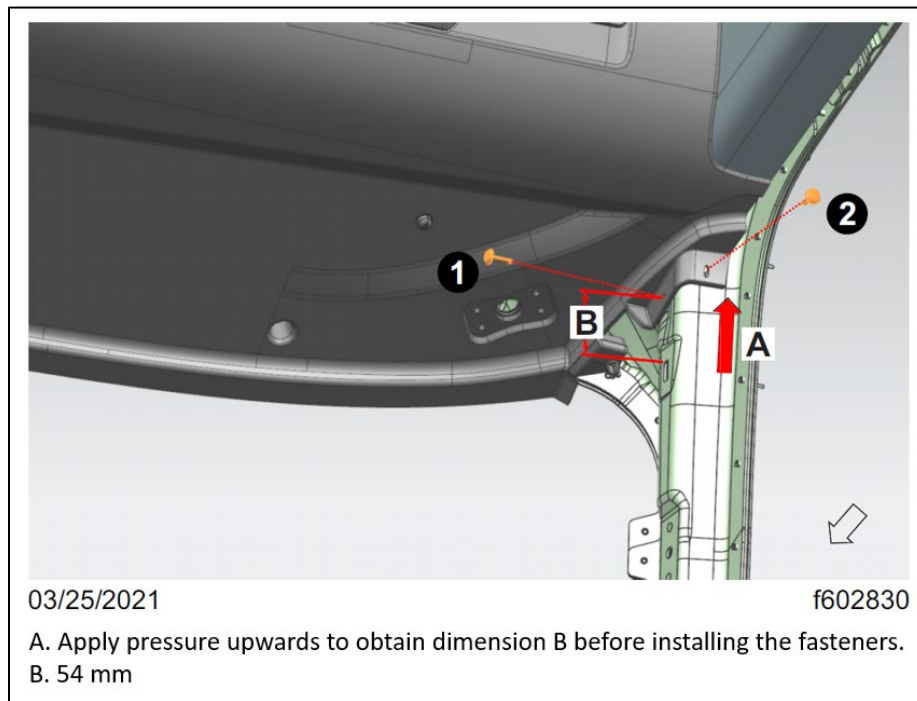

Fig. 25, Install Fasteners That Attach the RH Side Overhead Storage Cabinet to the A-Pillar
- 6.3. Apply pressure upwards on the RH side overhead storage cabinet, install the two fasteners that attach the RH side overhead storage cabinet to the A-pillar. Tighten the fasteners 11 to 13 lbf.ft (14 to 18 N.m) as per the sequence shown in Fig. 25.